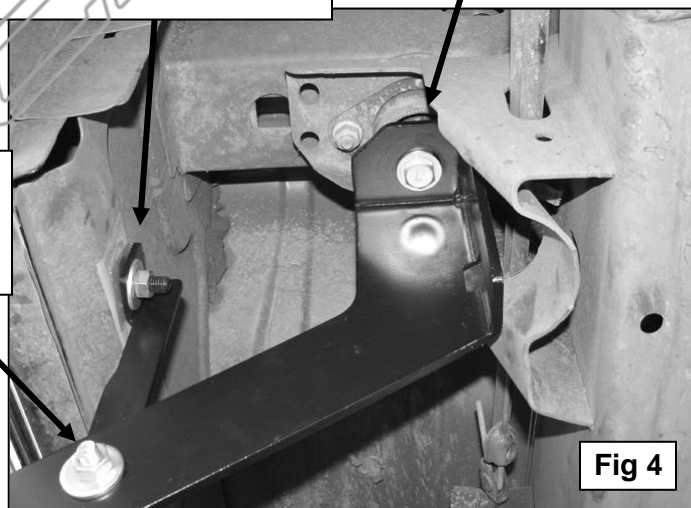

Fig 4
8. Next, move to the rear Mounting Bracket location. Remove the tape covering the hole in the inner rocker panel and install (1) Bolt Plate as described in **Step 5**. Locate the driver side rear Support Bracket (short) and attach it to the Bolt Plate with (1) 10mm Flat Washer, (1) 10mm Lock Washer and (1) 10mm Hex Nut, **(Figure 4)**. **NOTE:** Place Support Bracket against the front facing side of the Mounting Bracket with the bent tab facing towards the **rear** of the vehicle. Repeat **Step 7** to attach the lower end of the Support Bracket to the Mounting Bracket, **(Figure 4)**. Snug but do not tighten hardware at this time